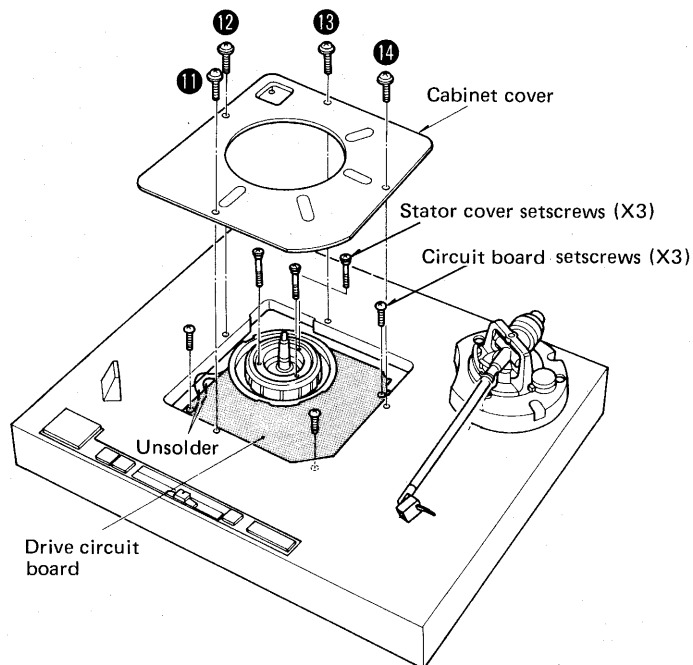

Fig. 3
5. Remove the 4 cabinet cover setscrews (Fig. 3: ⑪ - ⑭).